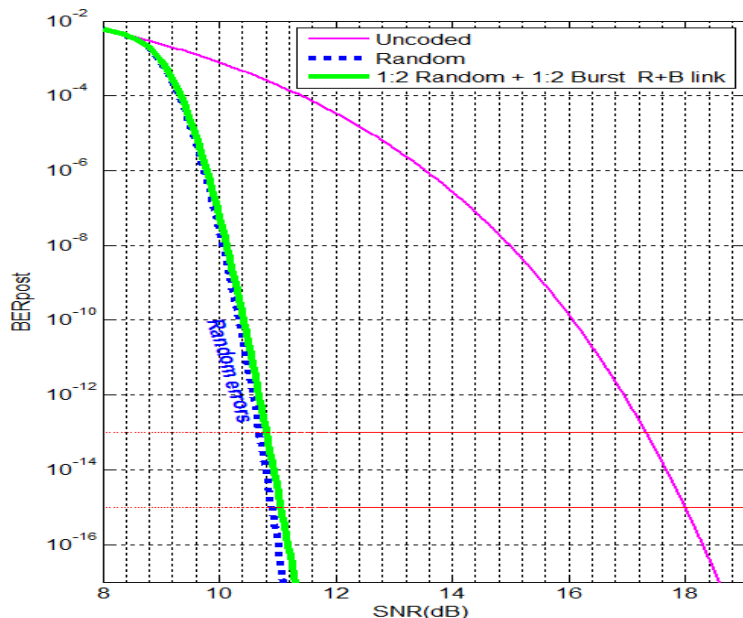

Figure 1: Random on Optical w/ Burst(a=0.5) on Electrical links
- ❑ For random+burst links, the best FEC performance is as good as having random errors only, as Figure 1 shows.